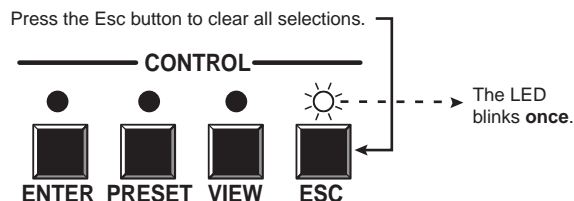

Figure 3-28 — Clear all selections
1. Press and release the Esc button (figure 3-28).